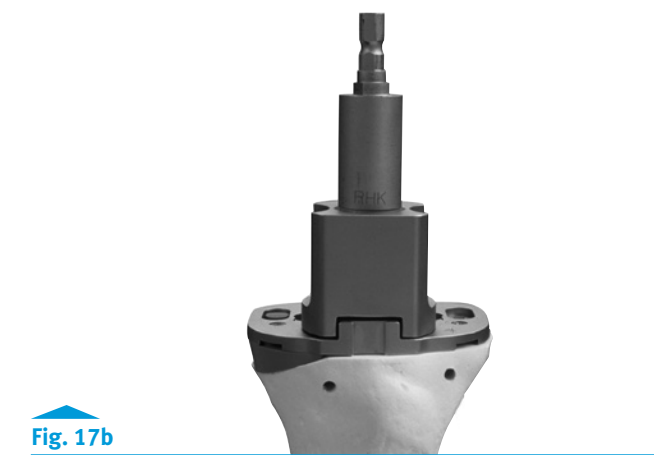

Fig. 17b
- Use the RH Knee Tibial Stem Base Drill to drill until the engraved line labeled "RH Knee" on the drill is in line with the top of the bushing (Fig. 17b).